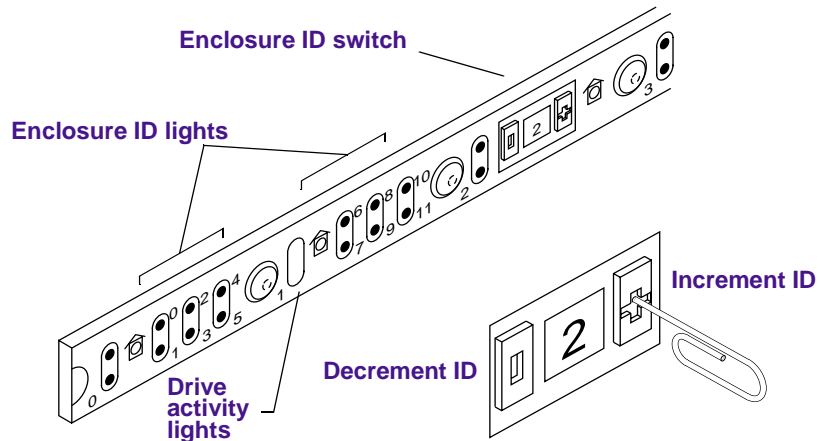

Figure 1-14 Setting the FCDE ID
1. Locate the enclosure ID switch on the FCDE front panel (see Figure 1-14).